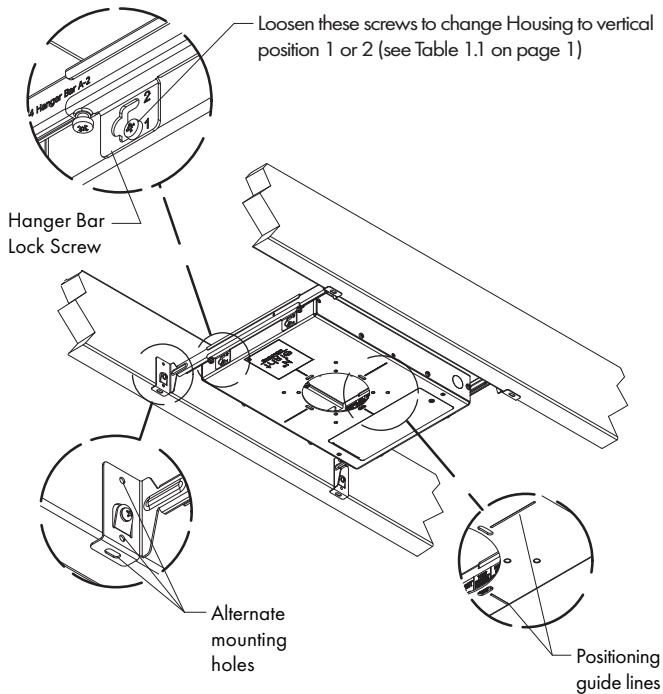

FIG 5.1 Fastening Housing to joists
STEP 1 Spread Hanger Bars to approximate joist spacing. Temporarily secure Lock Screws to keep Housing from sliding along Hanger Bars – **FIG 5.1 and 5.2.**
STEP 2 Secure Housing and Hanger Bar assembly to Joists using either the fasteners supplied on Hanger Bars or fasteners through alternate mounting holes – **FIG 5.1.**
STEP 3 Reposition Housing along Hanger Bars as needed. Use guide lines to help locate Housing relative to nearby walls or other fixtures – **FIG 5.1 and 5.2.**